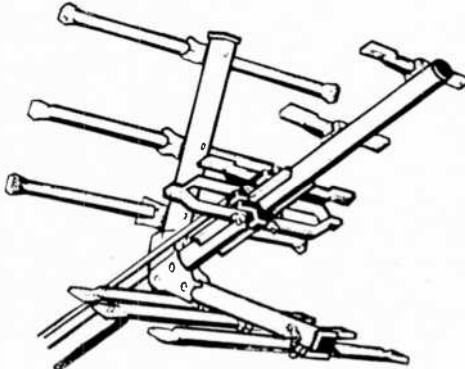

Fig. 1. Winegard uhf section fits in front of other companies' vhf units.
**For All Channels.** One example is a uhf design (Fig. 1) patented by *Winegard*. What appears to be a folded dipole wrapped around the boom forms the only active element. The lead-in is fastened to the opening at the bottom. There's another gap at the top of the dipole—unlike ordinary folded dipoles which are solid along the side opposite the feed-line. Two phasing bars (you can see only one in the illustration), connected to the top gap, are just long enough at uhf to act like zero impedance (a short circuit) across the gap.